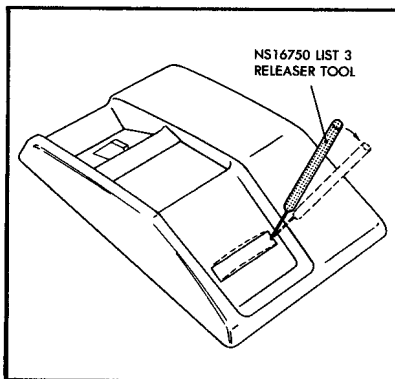

FIGURE 10. Removal of Card Retainer
(1) Remove card retainer (or window) located near the front of the housing. To remove card retainer, insert the tip of the NS167050 List 3 releaser tool into the small slotted hole at the edge of transparent window. Ensure that the tip does not enter the hole by more than one-eighth of an inch as an underlying screw may hinder the lateral movement of the tool. Apply a slight pressure to the handle of the tool. (See Figure 10.) The housing projection provides a fulcrum. This will bow the window upward so that its edges may be grasped with the fingertips of the other hand to spring it out.
(2) Remove the number card, if present.
(3) Loosen the exposed captive screw sufficiently so that the front of the housing may be lifted free of the base.
(4) Continued lifting of the cover enables the housing latches to disengage and free the cover.